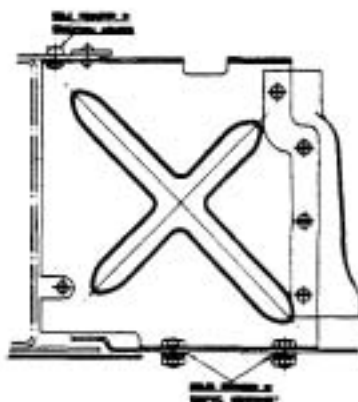

FIG. 2. BAFFLE PLATE.
8. Fit the rubber protection piece to the baffle plate as shown in Fig.2.